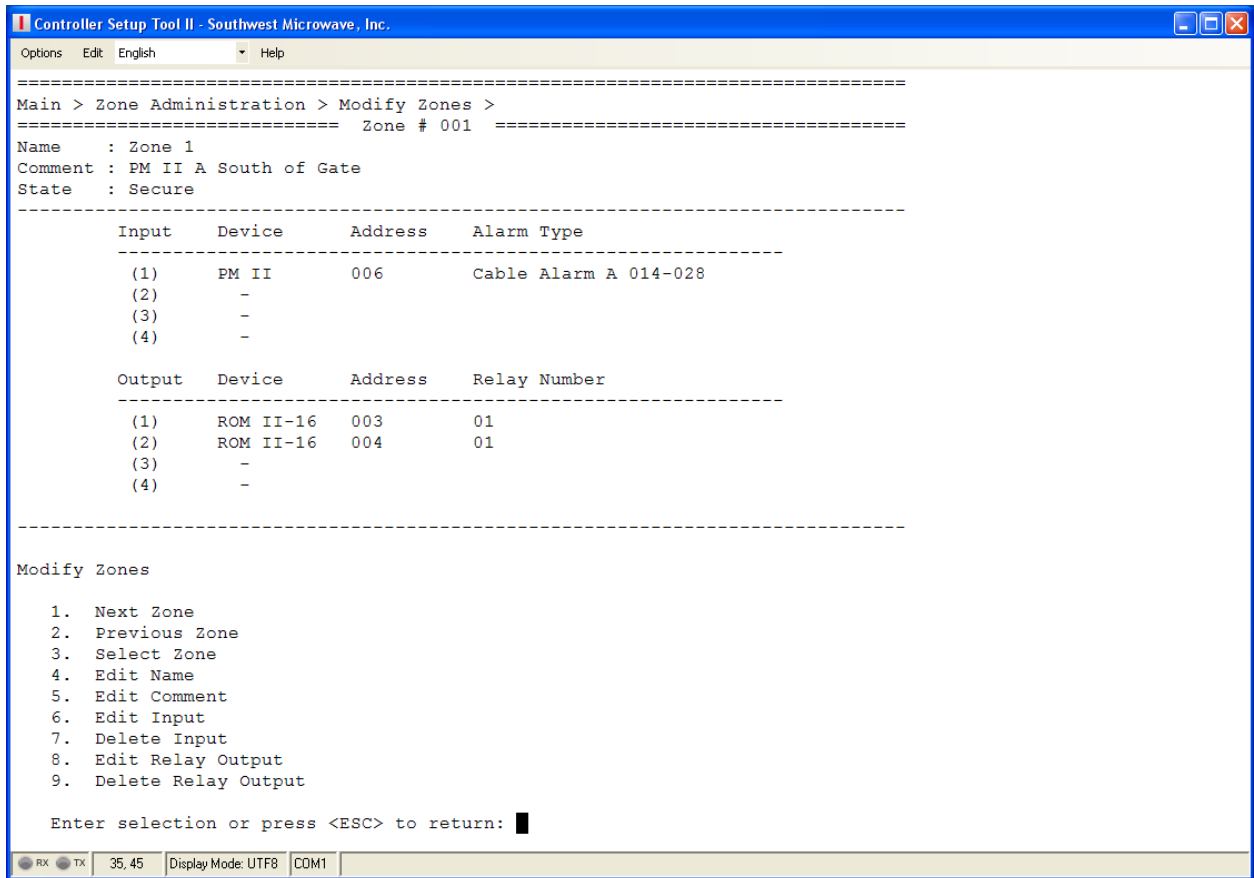

Figure 42 – Modify Zones Screen
Selecting command 2 from the Zone Administration Menu will open the “Modify Zones” screen as shown in Figure 42. There will be nine (9) command selections available: Next Zone, Previous Zone, Select Zone, Edit Name, Edit Comment, Edit Input, Delete Input, Edit Relay Output and Delete Relay Output. Once a Zone Record has been completed, any existing Zone Record can be modified from this menu.